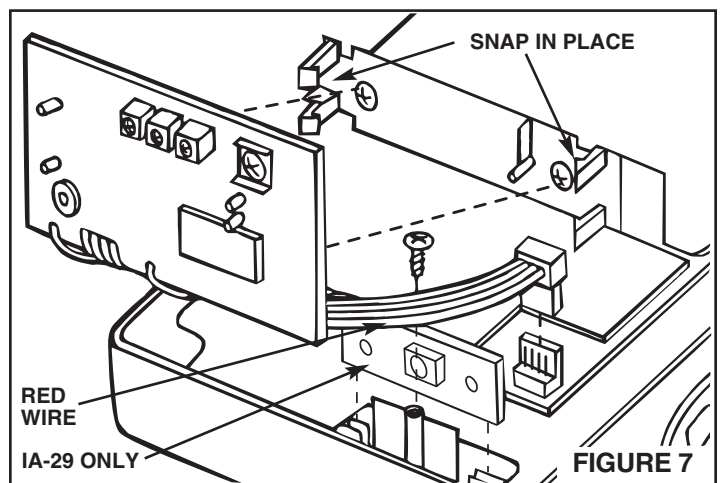

FIGURE 7
2. Refer to Figure 7. Align the optional NuTone IA-28 or IA-29 chime module onto the mounting bracket located in the master station.